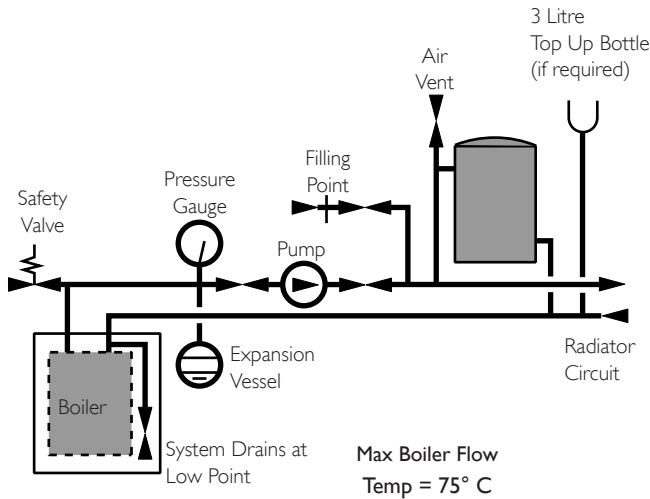

Fig. 6
4.7 Sealed Systems (Figs. 6, 7 & 8)